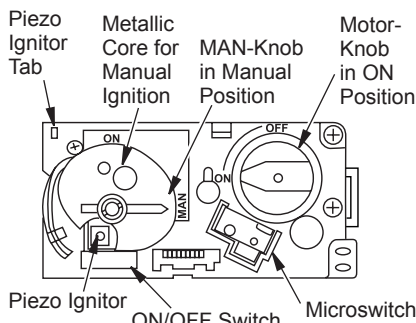

Figure 19 - Control Valve
4. Wait (5) minutes to clear any gas and then smell for gas around heater and near floor. If you smell gas, **STOP!** follow "B" on page 15. If you do not smell gas, go to the next step.
5. Make sure ON/OFF switch is in "—" (ON) position.
6. MAN-knob (valve) in MAN position, a metallic core is visible (see Figure 19).
1. Disconnect ignitor cable from receiver and connect to Piezo Ignitor Tab (see Figure 19 and *Wiring Diagram* on page 24).
5. Wait (5) minutes to clear any gas and then smell for gas around heater and near floor. If you smell gas, **STOP!** follow "B" on page 15.
7. MAN-knob on valve is in MAN position (see Figure 19), When in MAN position you can see a metallic core.